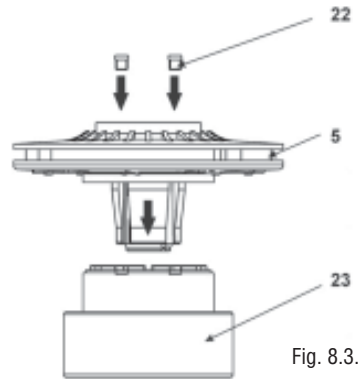

Fig. 8.3.2 E
- Assemble the impeller with the semi-discs (Fig. 8.3.2 F).